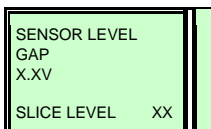

Figure 6-17, Slice Level Menu Screen
7. Advance to the Slice Level menu screen (Figure 6-17).